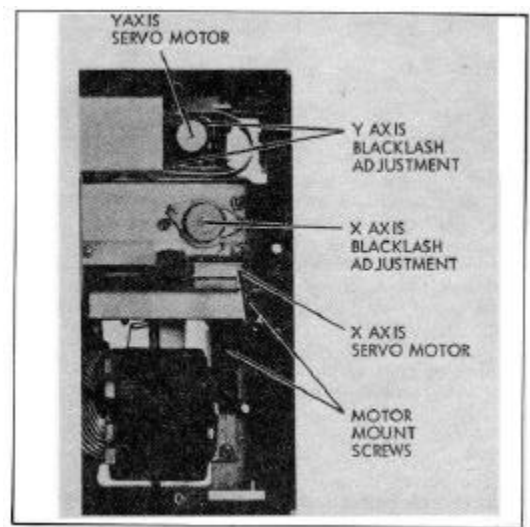

FIGURE 5-9. SERVO MOTOR MAINTENANCE AND BACKLASH ADJUSTMENTS
e. Using Phillips screwdriver, remove 2 screws mounting motor. See Figure 5-9.